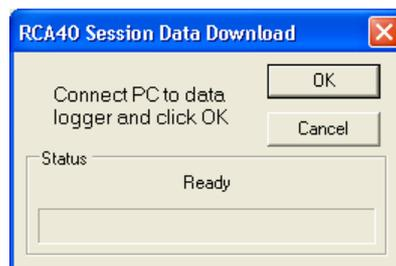

Figure 16 - Session Data Download Dialog (Idle)
1. Click the Download button  on either the main toolbar or the Lap Explorer toolbar, or select **File** → **Download** from the main menu, or select the **Download** option from the context menu attached to the root or circuit node. The Session Data Download dialog (Figure 16) appears.